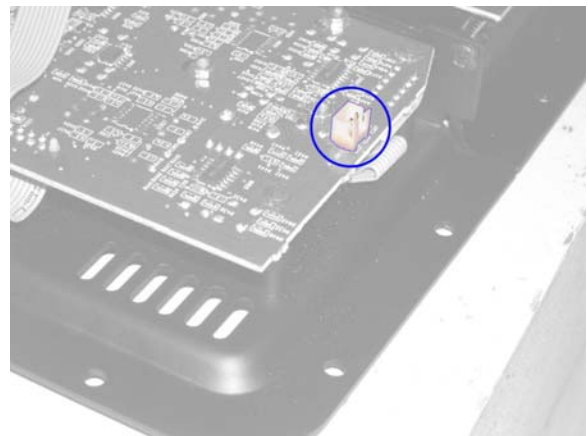

Figure 2. Location of J304A, the connection for the power indicator LED on the front grille.
4. Disconnect the power LED wires from header J304A (Figure 2).